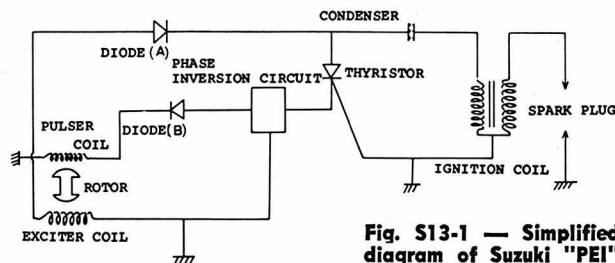

Fig. S13-1 — Simplified diagram of Suzuki "PEI" system used on TM 400R models.
Suzuki's PEI (Pointless Electronic Ignition) system is used on TM 400R models. A magneto mounted at left end of crankshaft is used to produce the current needed for ignition and to time the ignition signal. As magneto rotor (Fig. S13-1) turns, a current is induced in the exciter coil. This current is rectified by diode (A) and stored as 100-160 DC volts in the